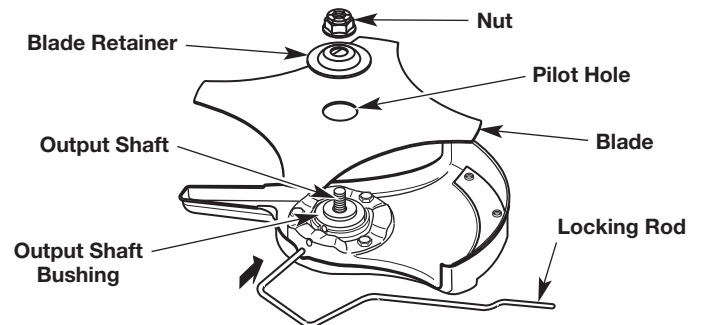

Fig. 16
4. While holding the locking rod in place, put the blade on the output shaft bushing (Fig. 16).
WARNING: To avoid serious personal injury, make sure that the pilot hole on the blade is sitting flat against the output shaft bushing (Fig. 16). The unit will vibrate and the blade may fly off if the blade is not centered.
5. Place the blade retainer on the output shaft with the flat surface against the blade (Fig. 16).
6. Screw the nut onto the output shaft (Fig. 16).